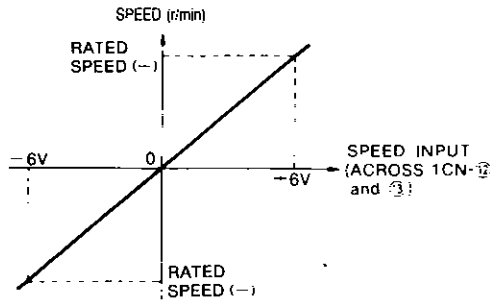

Fig. 10.1 Speed Reference Input-SERVOMOTOR Speed Ratio
- (1) Speed reference input — SERVOMOTOR speed ratio (no load) (Fig. 10.1)